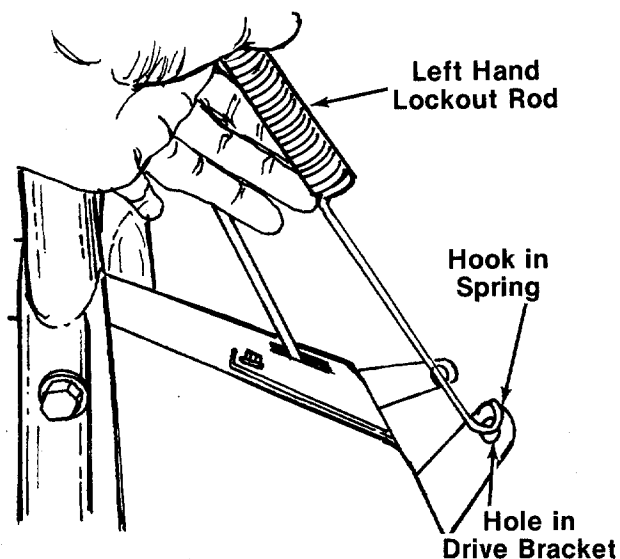

FIGURE 16.
21. Swing the left hand lockout rod down and simply hold it beside the drive bracket. **Do not** pull on spring. **Do not** move bracket. **The hook on the end of the spring must line up with the center of the hole in the drive bracket.** See figure 16.
If it does not, adjust the nut on the lockout rod until the hook on the spring aligns with the hole in the bracket as shown in figure 16.